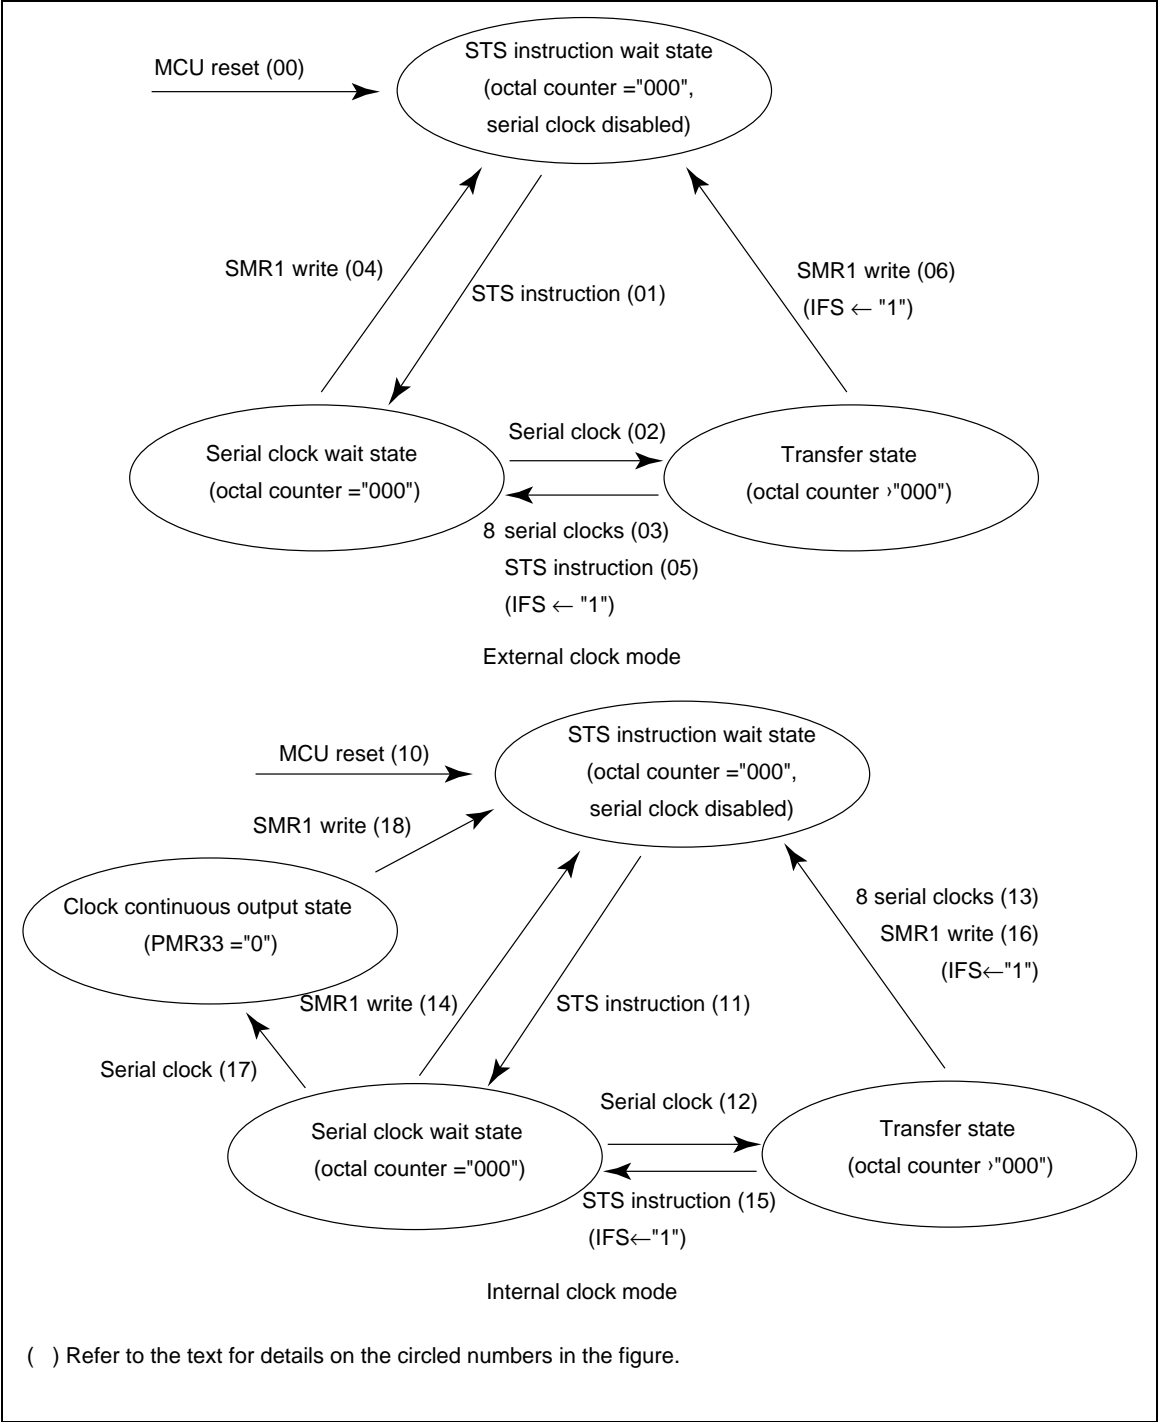

Figure 53 Serial Interface Operating States
The serial interface has the operating states shown in figure 53 in external clock mode and internal clock mode.
Upon MCU reset ((00) and (10) in figure 53), the serial interface enters the STS instruction wait state. In the STS instruction wait state, the internal state of the serial interface is initialized. Even if the serial clock is input at this time, the serial interface will not operate. When the STS instruction is executed ((01), (11)), the serial interface enters the serial clock wait state.